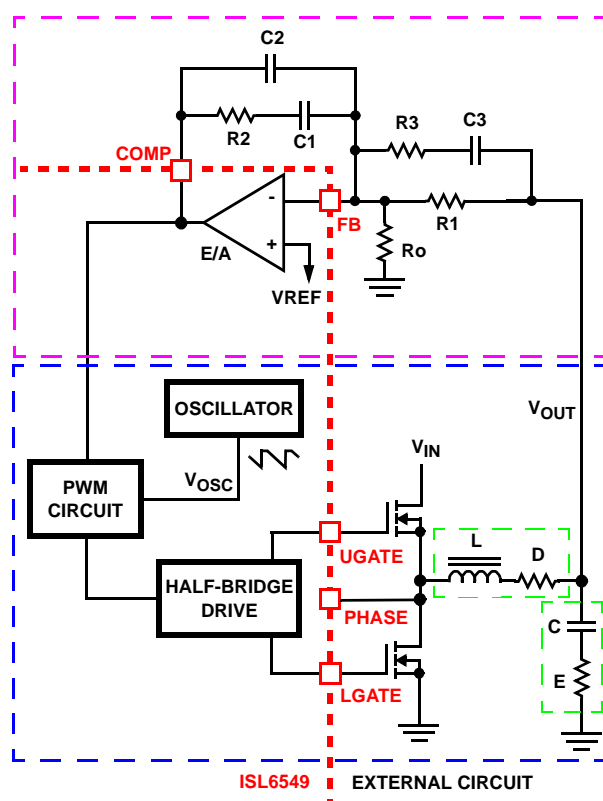

FIGURE 10. VOLTAGE-MODE BUCK CONVERTER COMPENSATION DESIGN
Figure 10 highlights the voltage-mode control loop for a synchronous-rectified buck converter, applicable to the ISL6549 circuit. The output voltage (V_{OUT}) is regulated to the reference voltage, V_{REF} . The error amplifier output (COMP pin voltage) is compared with the oscillator (OSC) modified saw-tooth wave to provide a pulse-width modulated wave with an amplitude of V_{IN} at the PHASE node. The PWM wave is smoothed by the output filter (L and C). The output filter capacitor bank's equivalent series resistance is represented by the series resistor E.
The compensation network consists of the error amplifier (internal to the ISL6549) and the external R1-R3, C1-C3 components. The goal of the compensation network is to provide a closed loop transfer function with high 0dB crossing frequency (F_0 ; typically 0.1 to 0.3 of F_{SW}) and adequate phase margin (better than 45 degrees). Phase margin is the difference between the closed loop phase at F_{0dB} and 180°. The equations that follow relate the compensation network's poles, zeros and gain to the components (R1, R2, R3, C1, C2, and C3) in Figure 10.
1. Select a value for R1 (1kΩ to 5kΩ, typically). Calculate value for R2 for desired converter bandwidth (F_0). If setting the output voltage via an offset resistor connected to the FB pin, R_o in Figure 10, the design procedure can be followed as presented.